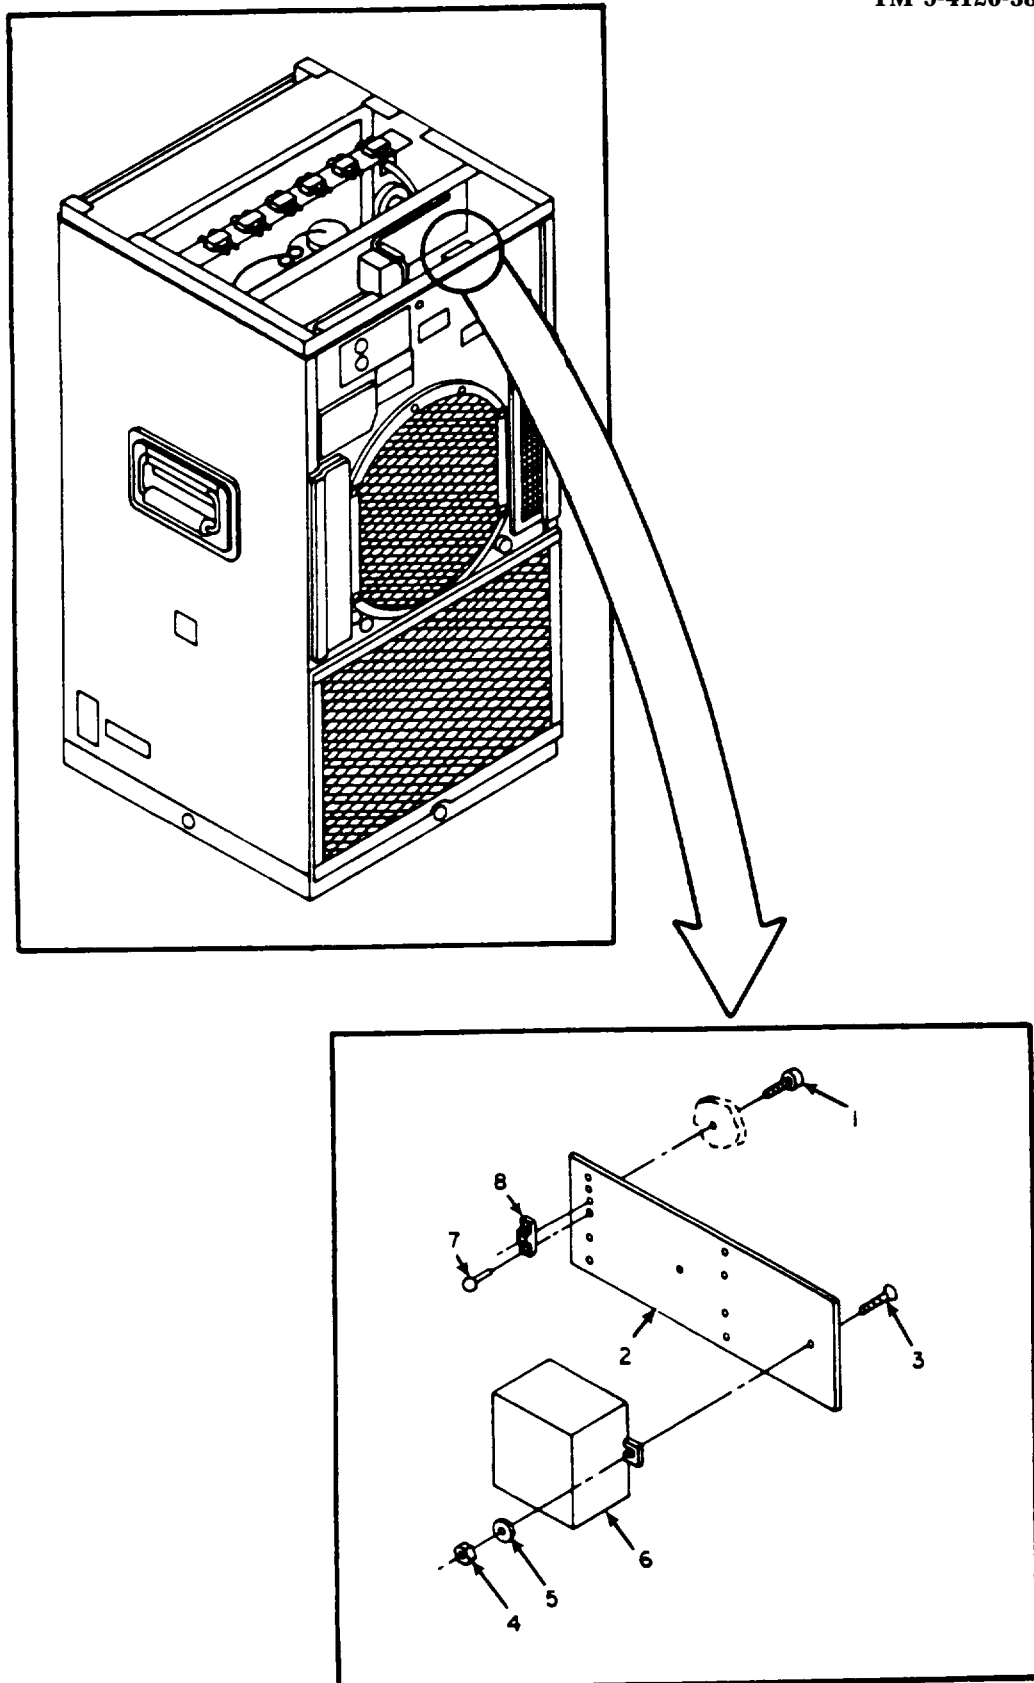
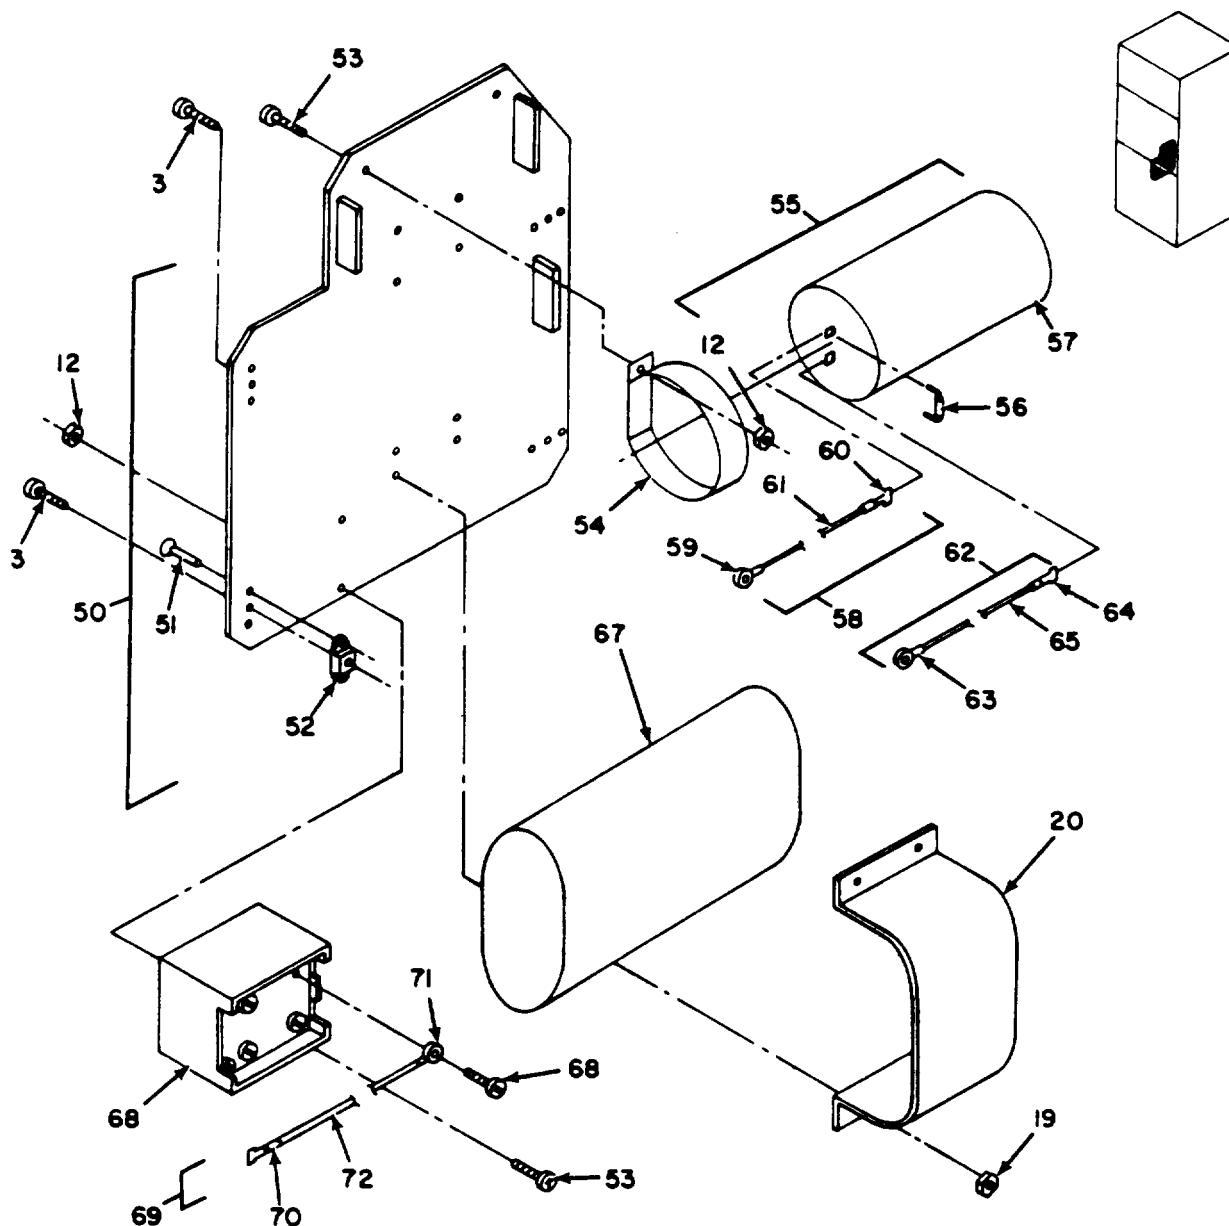

Figure 4-30. Relay (K7).
Figure 4-31. Relay (K10) and Capacitors (C2 and C4).
2. Disconnect and tag leads from relay (K7) (Fig 4-30, item 6).
3. Hold relay (6) securely while removing four screws (1) that retain bracket (2).
4. Remove bracket (2).
5. Remove three screws (3), flat washers (5), and nuts (4) to remove relay (6).
6. Floating nuts (8) may be removed by removing two rivets (7).
7. Locate bracket (Fig 4-31, item 50) to the left of compressor and remove four screws (3) to release.
7. Replace defective relay. Refer to Figure 4-30.
11. Replace defective relay. Refer to Figure 4-31.
1. Mount relay (K7) (Fig 4-30, item 6) to bracket (2) with three screws (3), flat washers (5), and nuts (4).
3. Mount bracket (2) to rear panel using four screws (1).
4. Mount relay (K10) (Fig 4-31, item 68) to bracket (50) with screw (53).
5. Mount capacitor (C2) (67) with clamp (66) and four screws (13) and nuts (19).
6. Attach resistor (56) to capacitor (C4) (57).
7. Slide two clamps (54) onto capacitor (C4) (57) and secure with one screw (53) and nut (12) each.
8. Connect all leads to relay (68) and capacitors (55 and 67). Refer to wiring diagram FO-1.
9. Mount bracket (50) to inside left wall using four screws (3).